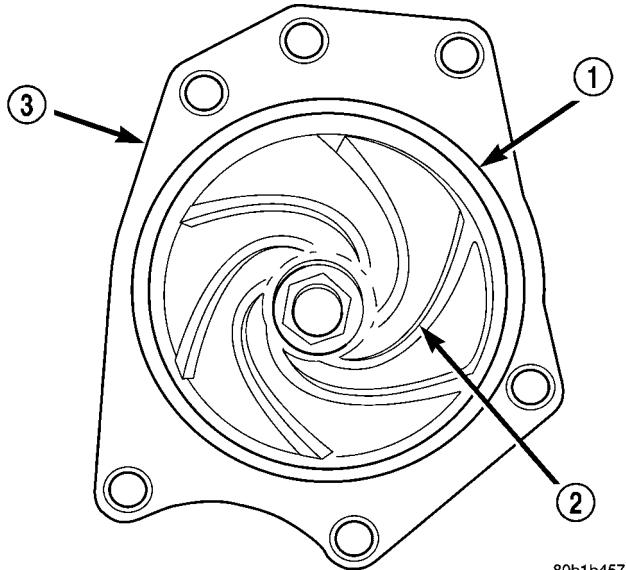

Fig. 32 WATER PUMP - 3.5L
The 3.5L water pump has a die cast aluminum housing and a plastic swept vane impeller. It bolts directly to the right rear timing belt cover using an O-ring for sealing (Fig. 32). The water pump is driven by the engine timing belt.
- (1) Clean all O-ring surfaces on pump and cover.
- (2) Apply Mopar® Dielectric Grease or the equivalent silicone grease to the O-ring to facilitate assembly. Install new O-ring on water pump (Fig. 32).